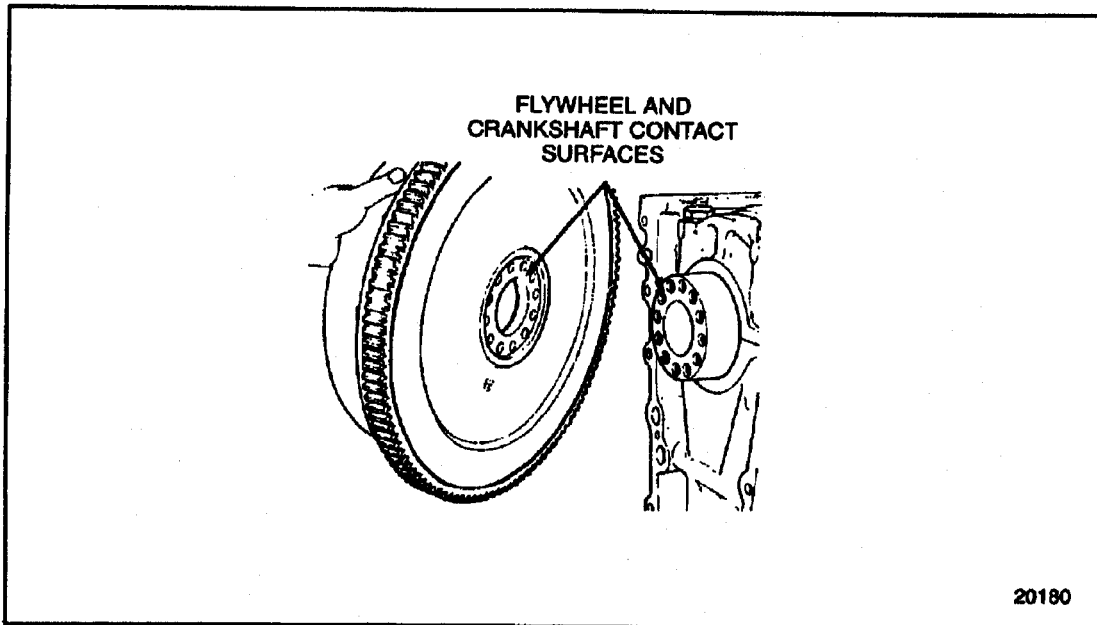

Figure 1-225 Crankshaft and Flywheel Mating Surfaces
- [a] Check the butt end of the crankshaft and flywheel contact surface for fretting, brinelling, or burrs. See Figure 1-225.